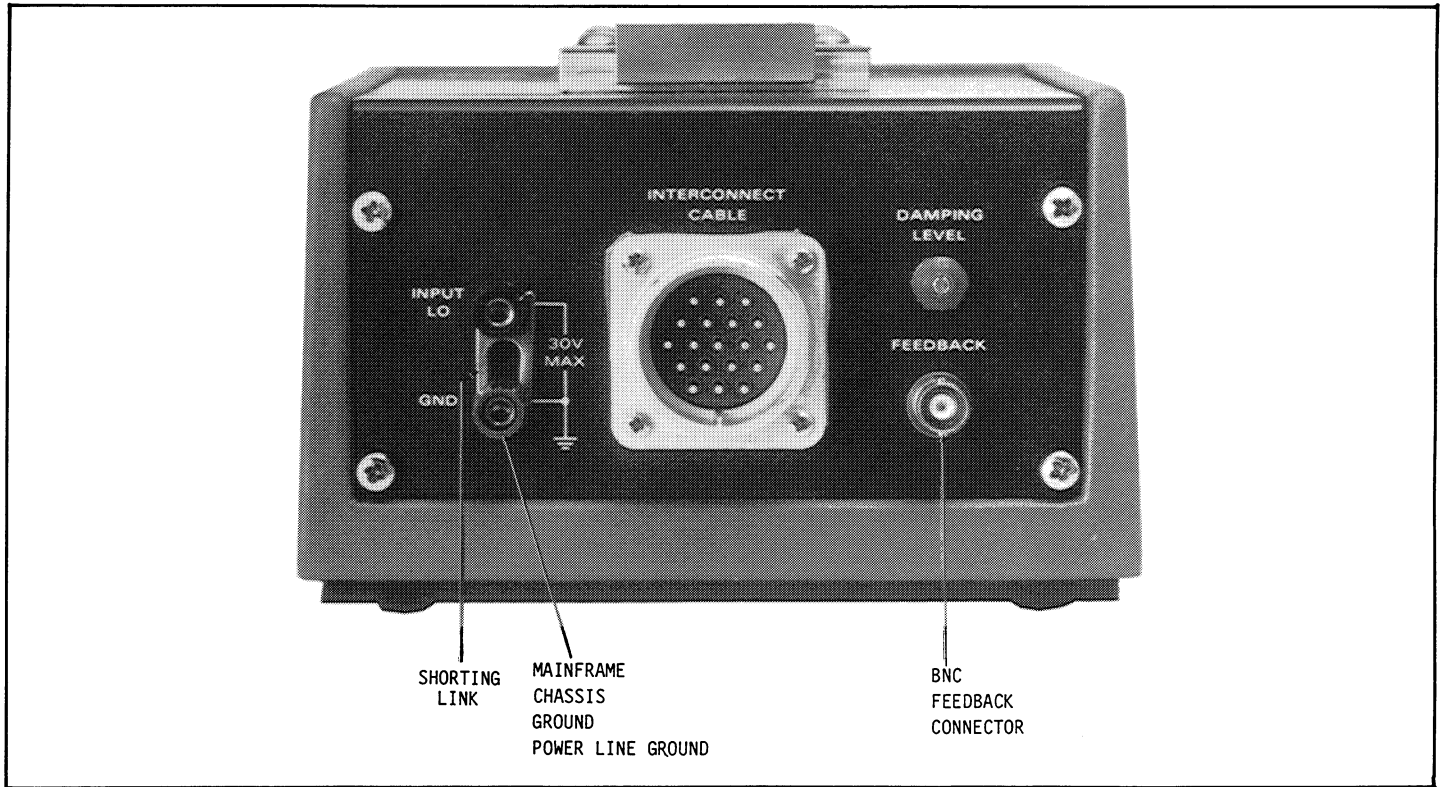

FIGURE 2-3. Remote Head Feedback and Ground Connections
2-20. A third analog output is provided at the remote head BNC FEEDBACK connector (see Figure 2-3). This is the highest performance analog output, providing the full capability of the remote head pre-amplifier. The dynamic range of this output is  $\pm 11V$ . It has low noise (2ppm rms) and the voltage linearity is typically within 5ppm (50 $\mu V$  in 10 volts). This output may be direct coupled to a V/F converter, which is often used to precisely digitize and integrate the signal. Also, resolution is more than adequate for a chart recorder. If automatic data gathering is necessary, the FEEDBACK output can also be connected to a digital multimeter with systems capability. A digital multimeter is available through KEITHLEY which has high accuracy and the capability of being interfaced with an IEEE Standard Interface Bus. See Model 6900 (6-1/2 digit) in Section 4 of this manual.
b. FEEDBACK Connector (Figure 2-3). This connector permits the use of external feedback components (i.e. a resistor for current measurements or a capacitor for charge measurements). The remote head analog output voltage is connected to the center contact of the feedback connector through a 1 kilohm resistor, a 1500pF capacitor is connected between the resistor and the FEEDBACK connector to signal common. This impedance must be considered if external feedback components are to be used. The outer shell of the FEEDBACK connector is at signal common (input low). Depressing the EXT FDBK function pushbutton on the mainframe front panel mechanically rejects the other function pushbuttons. This results in the preamplifier being in the feedback mode with all feedback components disconnected. Additional information concerning the use of the FEEDBACK connector is provided in the discussion on Analog Outputs in Paragraph 2-20.